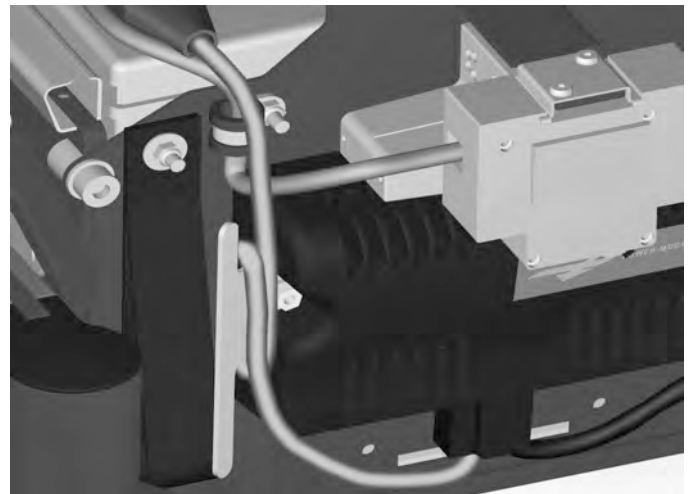

Figure 34. Wrap the cable connected to the left battery pole of the rear battery one turn around the cable holder.
2. Wrap the cable connected to the left battery pole of the rear battery one turn around the cable holder. See fig. 34.